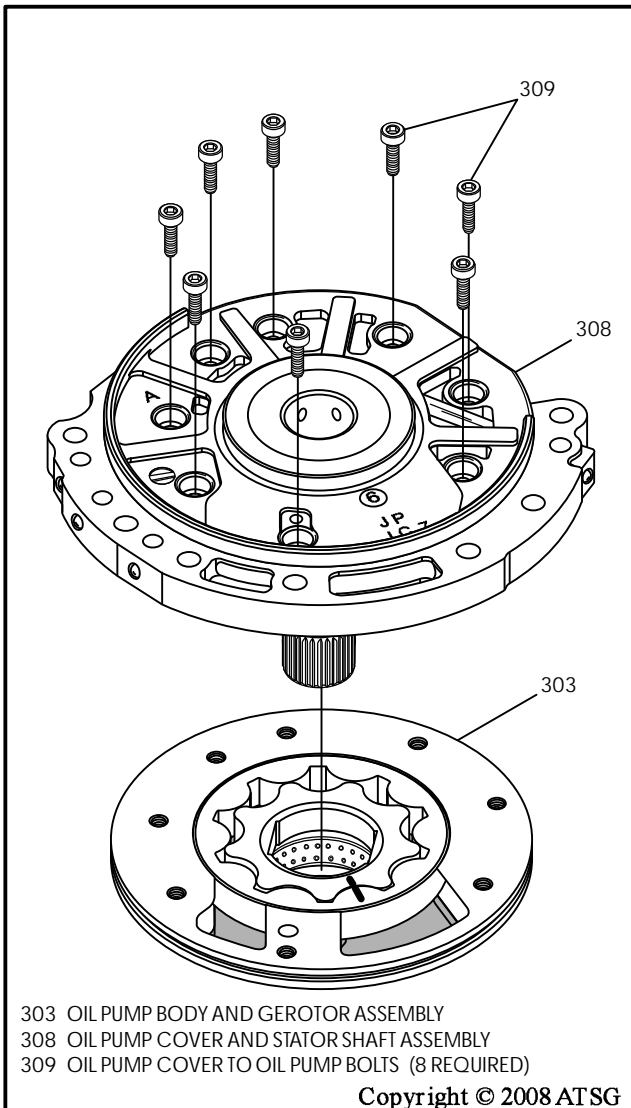

Figure 152
13. Install oil pump cover and stator shaft assembly onto oil pump body, as shown in Figure 152.
14. Install the eight 5mm allen head retaining bolts, as shown in Figure 152, and hand tighten only.